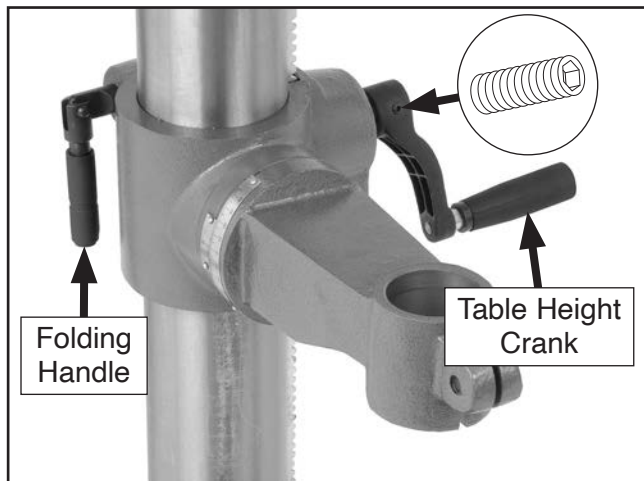

Figure 21. Example of table height crank and folding handle installed.
6. Install table height crank over worm shaft in table bracket shown in **Figure 21**, then tighten set screw in crank against flat part of shaft to secure.
7. Thread M12-1.5 x 50 folding handle into table bracket (see **Figure 21**), and tighten until table bracket will not move.